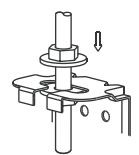

Fig. 1-5
- Locate the air conditioner firmly by wrenching the nuts after having adjusted the body's position well. (Refer to Fig.1-5)